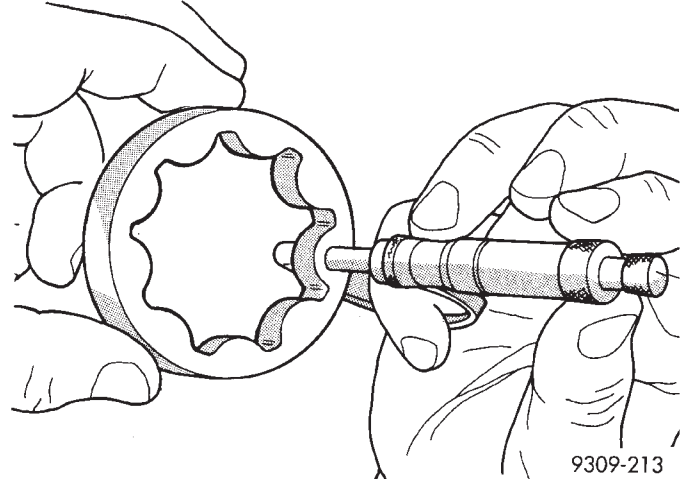

Fig. 79 Measuring Outer Rotor Thickness
(5) Measure thickness and diameter of outer rotor. If outer rotor thickness measures 7.64 mm (0.301 in.) or less (Fig. 79), or if the diameter is 79.95 mm (3.148 inches.) or less, replace outer rotor.